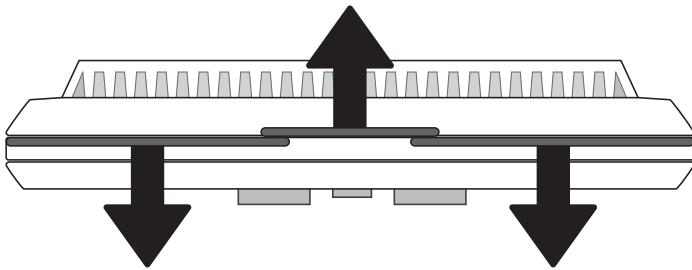

Figure 27.1
1. Separate the body of the thermostat from the mounting plate by gently pulling the two pieces apart (**Figure 27.1**)